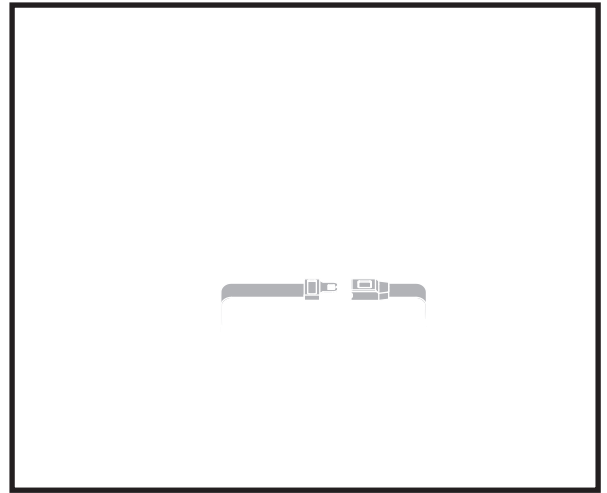

Figure 17. Positioning Belt Adjustment
Your power chair may be equipped with a positioning belt that can be adjusted for operator comfort. **See figure 17.** The positioning belt is designed to support the operator so that he/she does not slide down or forward in the seat. The positioning belt is not designed for use as a restraining device.
4. Once seated, insert the metal tab on one side of the belt into the plastic housing on the opposite side until you hear a click. **See figure 17.**